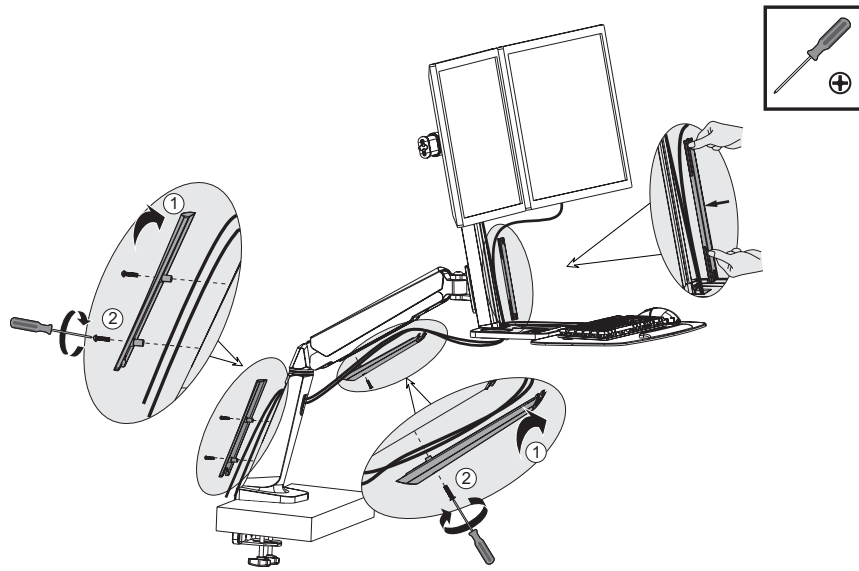

Figure 17
2. Arrange the cables then install the cable management covers back onto the arms, see Figure 17.